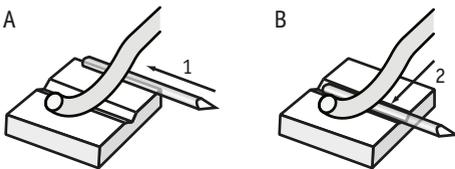

Figure 3-3: Mounting the tip under the tip clamp
- ❶ Put the tip wire on the tip holder parallel to the groove in the tip holder, so that it crosses below the tip clamp (Figure 3-3: Mounting the tip under the tip clamp, A).
- ❷ Move the tip wire sideways until it is in the groove in the tip holder (Figure 3-3: Mounting the tip under the tip clamp, B).